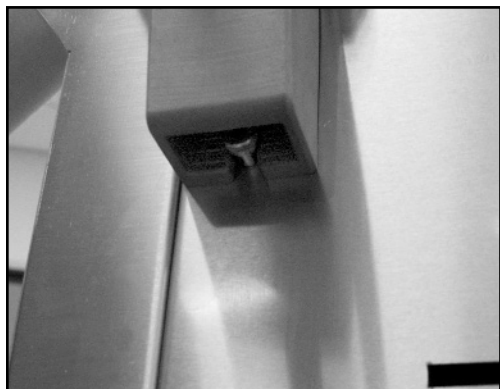
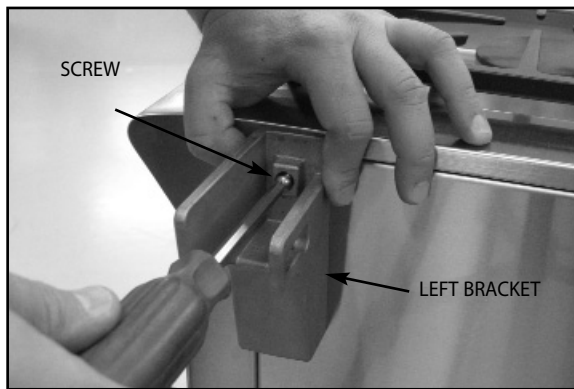

Fig. 03
Fig. 04
2. Slide left and right side shelf brackets over the shoulder bolt (Fig. 03) and install top screw attaching the side shelf brackets onto the cart (Fig. 04). Tighten with Phillips screwdriver.